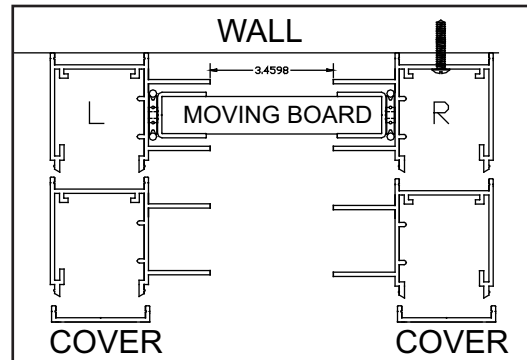

Figure 4
- 3)** Erect this assembly and attach to the retaining wall by placing screws through the back wall inside the left and right side. (See Figure 4).